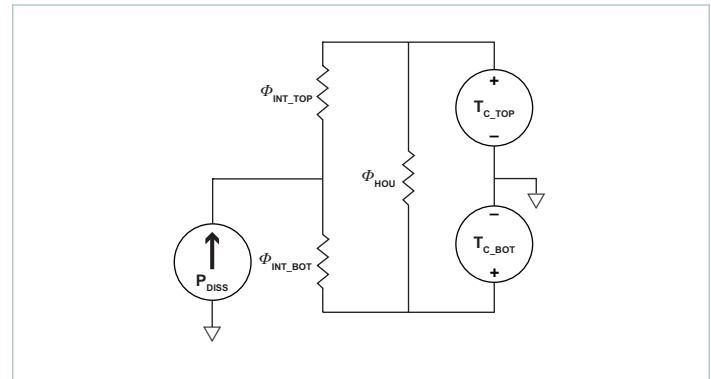
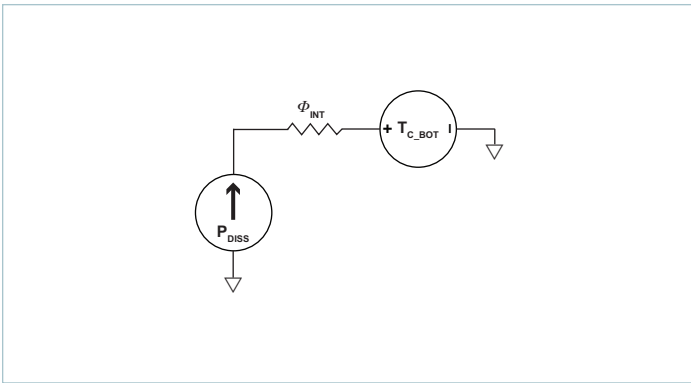

Figure 22 — Double-sided cooling VIA thermal model
Figure 23 — Single-sided cooling VIA thermal model
The VIA package provides effective conduction cooling from either of the two module surfaces. Heat may be removed from the top surface, the bottom surface or both. The extent to which these two surfaces are cooled is a key component for determining the maximum power that can be processed by a VIA, as can be seen from the specified thermal operating area in Figure 1. Since the VIA has a maximum internal temperature rating, it is necessary to estimate this temperature based on a system-level thermal solution. For this purpose, it is helpful to simplify the thermal solution into a roughly equivalent circuit where power dissipation is modeled as a current source, isothermal surface temperatures are represented as voltage sources and the thermal resistances are represented as resistors. Figure 22 shows the “thermal circuit” for the VIA module.
- **Single side cooling:** the model of Figure 22 can be simplified by calculating the parallel resistor network and using one simple thermal resistance number and the internal power dissipation curves; an example for bottom side cooling only is shown in Figure 23.